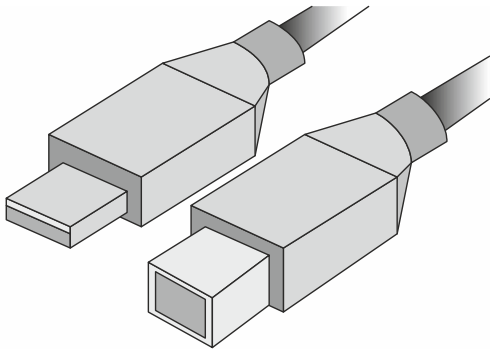

Fig. 18. A-male to B-male USB cable
1. Connect one end of the A-male to B-male USB cable (see Fig. 18) to your PC and the other end to the USB 2.0 Device Interface (see Fig. 6 on pg. 6) located on the front of your CLIF-CBUSLC.